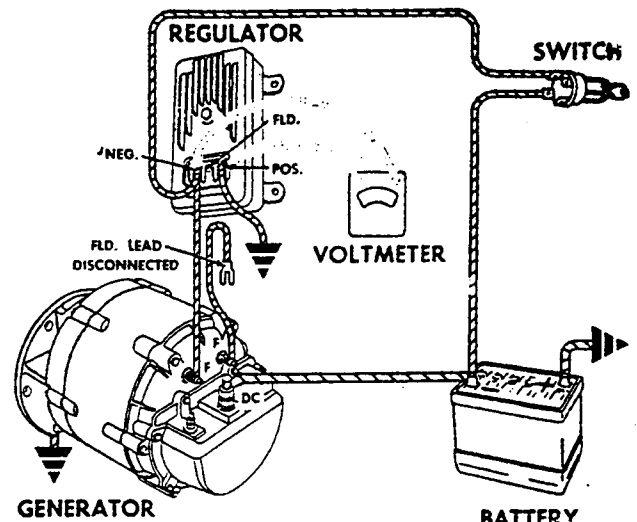

Fig. 8 - Checking generator voltage (positive ground system).
3. Connect a voltmeter across the "Pos" and "Neg" terminals on the regulator. See Figure 8.